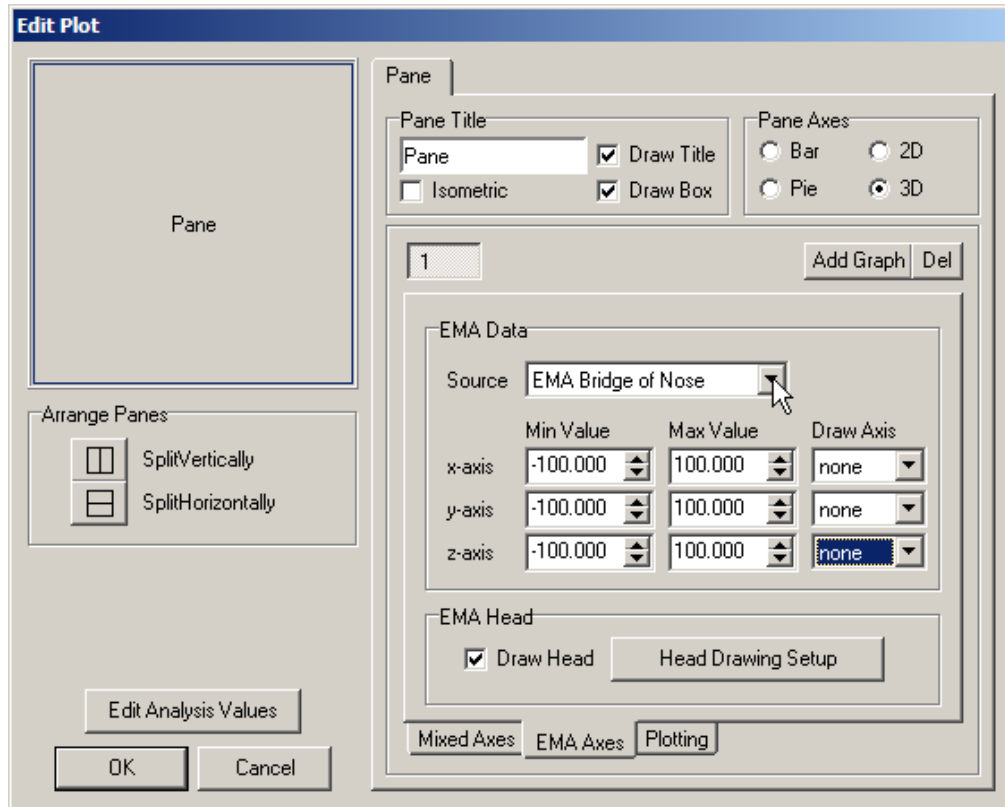

Figure 8 Edit Plot Dialogue showing 3D plot selected in a single pane with the 'EMA axes' tab selected to allow each EMA channel to be added easily
3. Set the min an max values for each axis (see Figure 8)